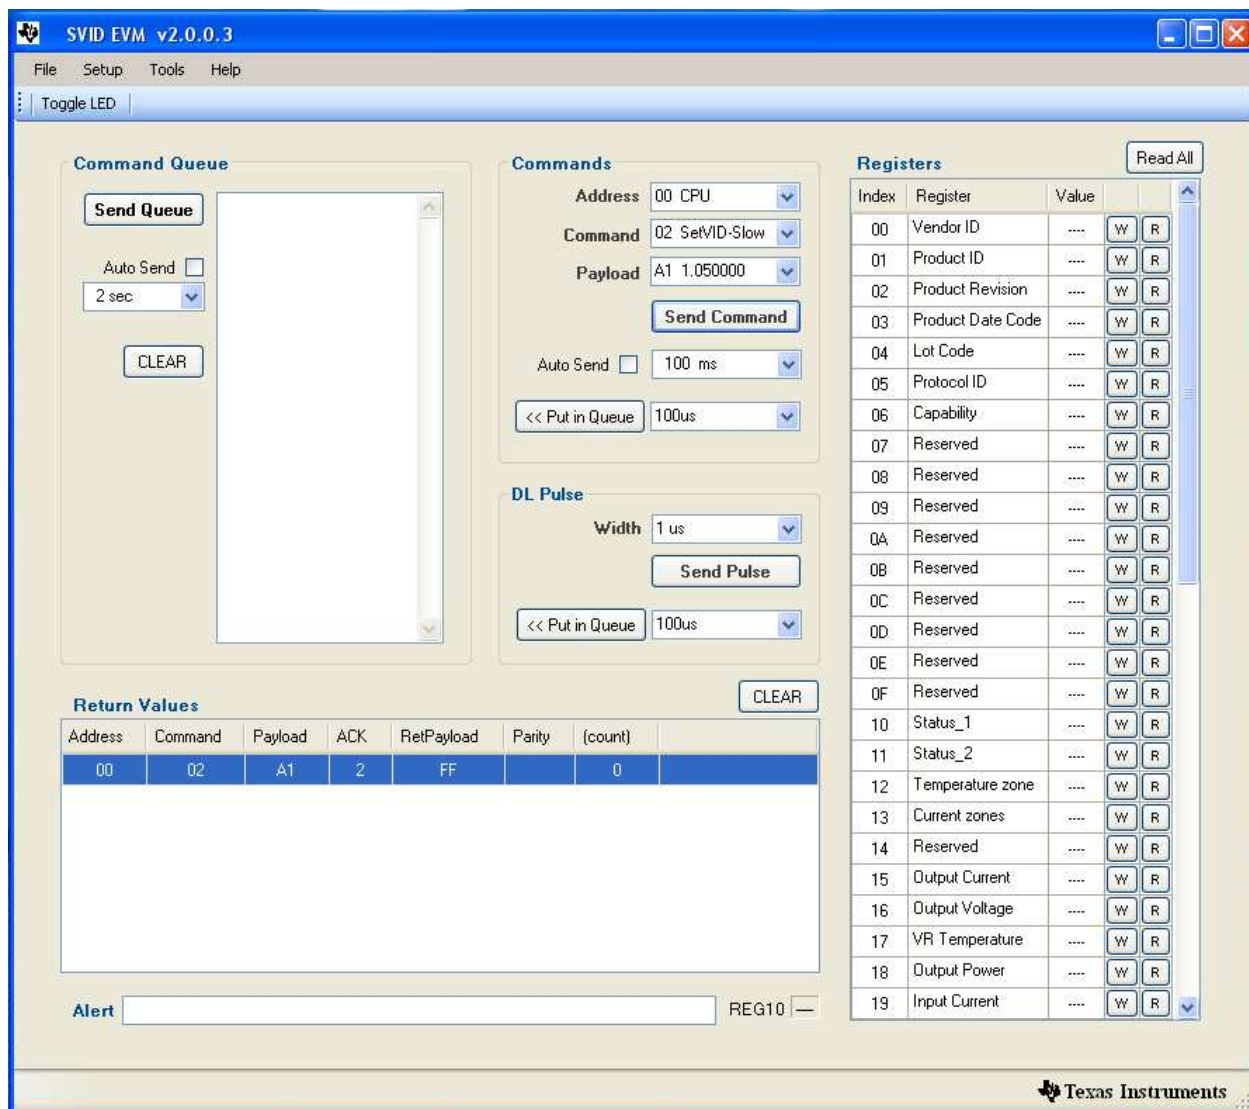

Figure 5. TPS59650EVM-753 CPU GUI set up Window
10. Double-Click the icon to launch the GUI program. The GUI window shown in Figure 5.
13. Click "send Command" and CPU CPGOOD LED will light up, See the GUI window as Figure 5.